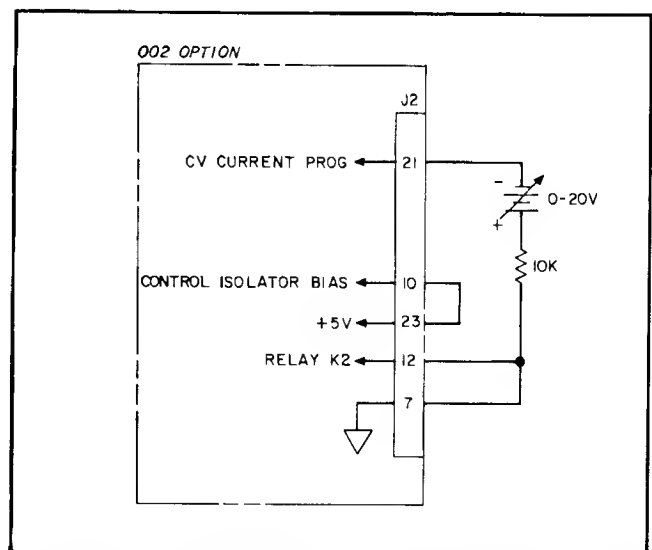

Figure A-10. Troubleshooting Current Programming of CV Mode
- Check $+5$ V supply and proceed to the test set-up shown in Figure A-10 and/or A-11.